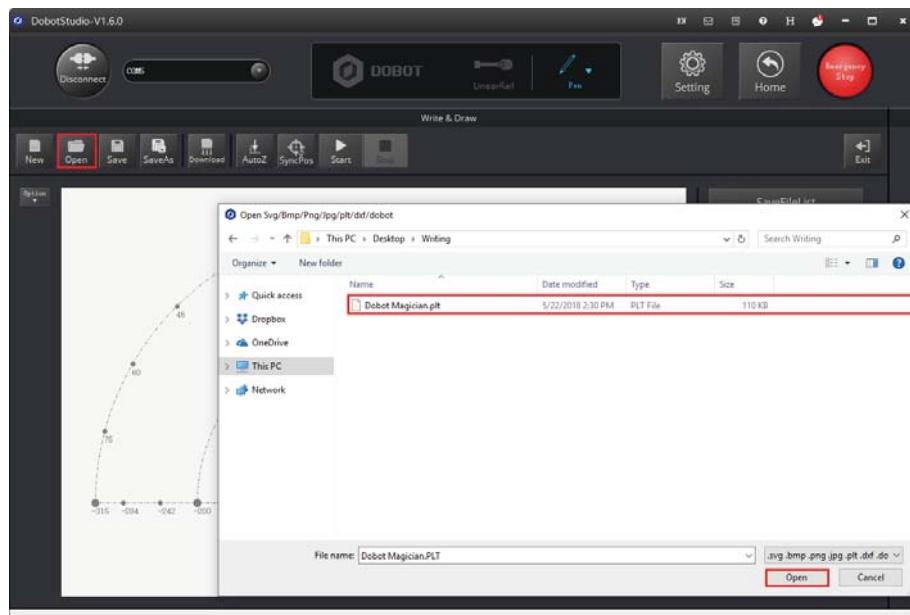

Figure 5.47 Open a PLT or SVG system image file
- Click **Open** on the **Write & Draw** page to import a built-in PLT or SVG image file from the DobotStudio installation directory **InstallatonDirectory\DOBOTStudio\config\prefab\system\source**, as shown in Figure 5.47. You can also import your custom PLT or SVG image file.